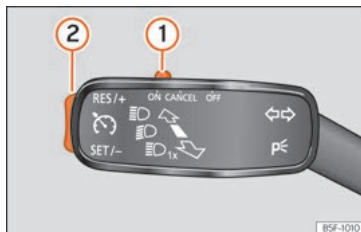

Fig. 53 Left of the steering column: CCS switch and controls.
- Switching on the CCS: Move switch » **Fig. 53** ① to **ON**. The system is on. If no
- Activate the CCS: Press button » **Fig. 53** ② in the **SET/-** area. The current speed is memorised and controlled.
- Temporarily switching off the CCS: Move switch » **Fig. 53** ① to **CANCEL** or push the brake. The cruise control system is switched off temporarily.
- Reactivating the CCS: Press button » **Fig. 53** ② in **RES/+**. The memorised speed is saved and controlled again.
- Increasing stored speed during CCS regulation: press button ② in **RES/+**. The vehicle accelerates until the new stored speed.
- Reducing stored speed during CCS regulation: press button ② in **SET/-** to lower the speed by 1 km/h (1 mph). Speed is reduced until reaching the new stored speed.
- Switching off the CCS: Move switch » **Fig. 53** ① to **OFF**. The system is disconnected and the memorised speed is deleted.